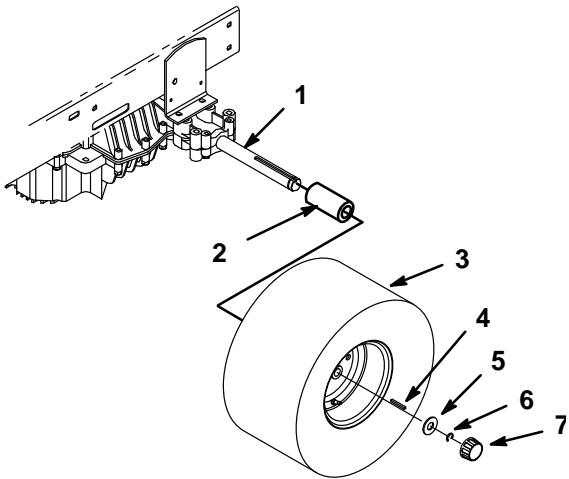

Figure 2
- 2. Slide spacer then wheel, with valve stem to the outside, onto axle (Fig. 2).
- 3. Slide key into keyway of axle and wheel hub (Fig. 2).
- 5. Slide washer onto axle and secure with E-ring (Fig. 2). If E-ring does not fit, remove shim washer(s) as required.
- 6. Press hub cap over washer (Fig. 2).